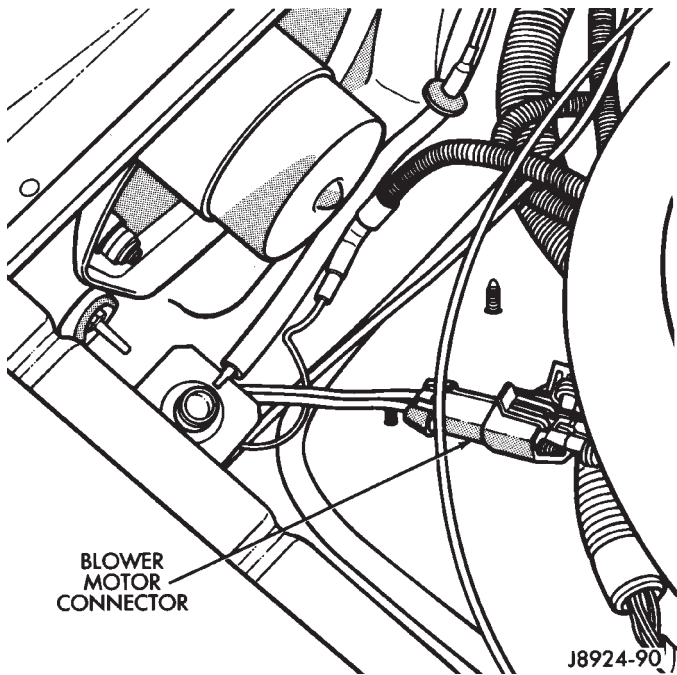

Fig. 9 Blower Motor Connector
- (1) Disconnect the blower motor wires (Fig. 9).
- (1) Remove the washer fluid tank.
- (2) Disconnect the blower motor wires (Fig. 9).